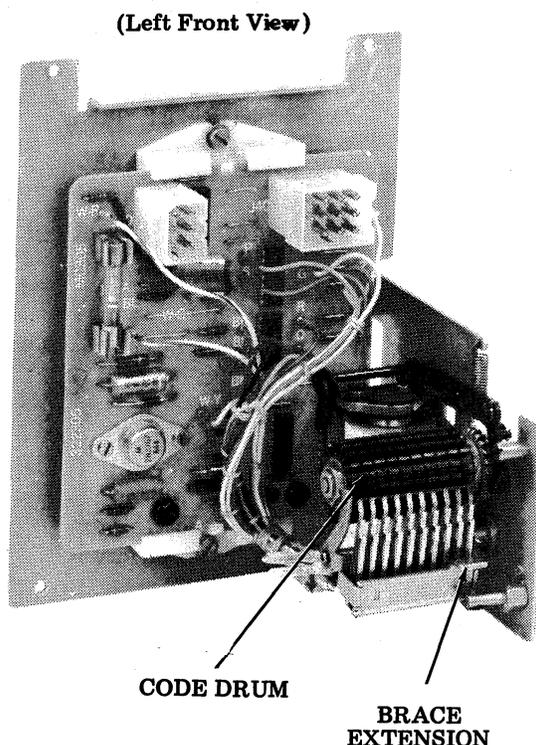

Figure 19 - Answer-Back
4.27 Remove the packing material from the answer-back unit (Figure 19) by performing the following procedures.
4.29 The answer-back drum is contained within the answer-back unit (Figure 19). If detailed coding instructions are unavailable, the instructions outlined here describe the method used to encode the drum.
4.31 Encoding the answer-back drum is performed by removing tines on the drum. The rows of tines are numbered and embossed on the right end of the code drum. The elements in each row are shown in Figure 19, which is the answer-back code drum chart used for encoding the drum.